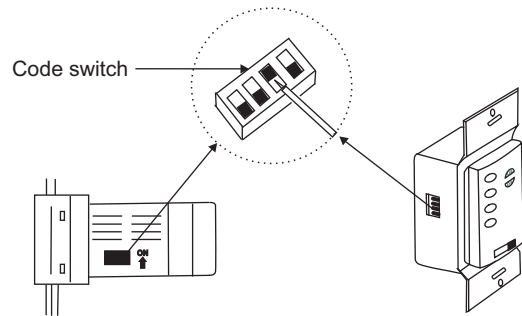

Figure 10
**NOTE:** This remote control unit is equipped with 16 code combinations to prevent possible interference from or to other remote units. The frequency switches on your receiver and transmitter have been preset at the factory. Please recheck to make sure the switches on transmitter and receiver are set to the same position, any combination of settings will operate the fan as long as the transmitter and receiver are set to the same position. (Figure 10)